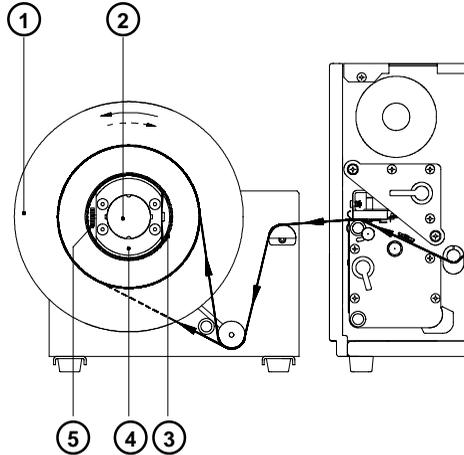

Figure 8e Rewinding onto 3" (75mm) cardboard rolls
1. Use a cardboard roll (3) which is about .04" (1mm) wider than the label strip.
3. Mount the first axle adapter (4) onto the rewinder axle (2) and slide it up to the disc (1). Tighten the knurled screw (5).
4. Mount the second adapter onto the rewinder axle (2). Slide it towards the first adapter until the clearance between the two adapters is a little less than the width of the cardboard roll (3). Tighten the knurled screw (5).
5. Slide the cardboard roll (3) over the two adapters (4) until it is touching the disc (1).
6. Feed the label strip over the guide bar and under the roller as shown in figure 8e up to the cardboard roll.
7. Using adhesive tape or a label, affix the end of the label strip to the cardboard roll (3). (The broken line shows inside rolled labels).
8. Ensure that the roll and label strip are flush to the disc (1)
9. Slide flange onto the rewind axle (2) until it stops at the cardboard. Tighten the knurled screw.